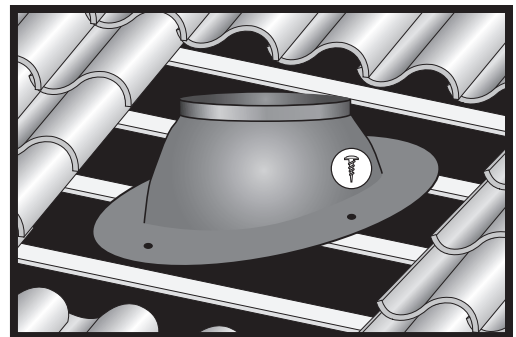

Figure 3
**3.** Caulk **underside** of flashing with the provided caulking material. Two concentric rings of caulking material is sufficient. Secure flashing with the Phillips head screws provided (see Figure 3).